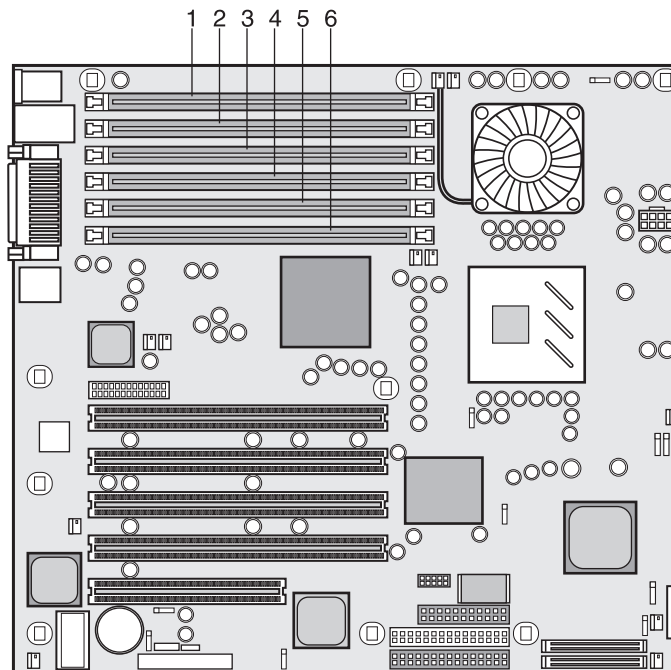

Figure 2-11: DIMM locations on system board
4. Select a DIMM slot for the desired DIMM. Refer to Figure 2-11.